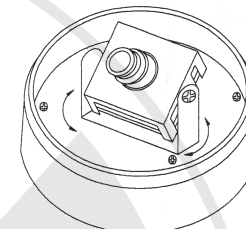

Figure 3
STEP 5: The horizontal angle can be adjusted by loosening the nut on the bottom of the camera (as shown in Figure 3) and by turning the camera housing horizontally.
STEP 2: Insert the AC plug into the AC socket and the DC plug into the DC socket (as shown in Figure 3).